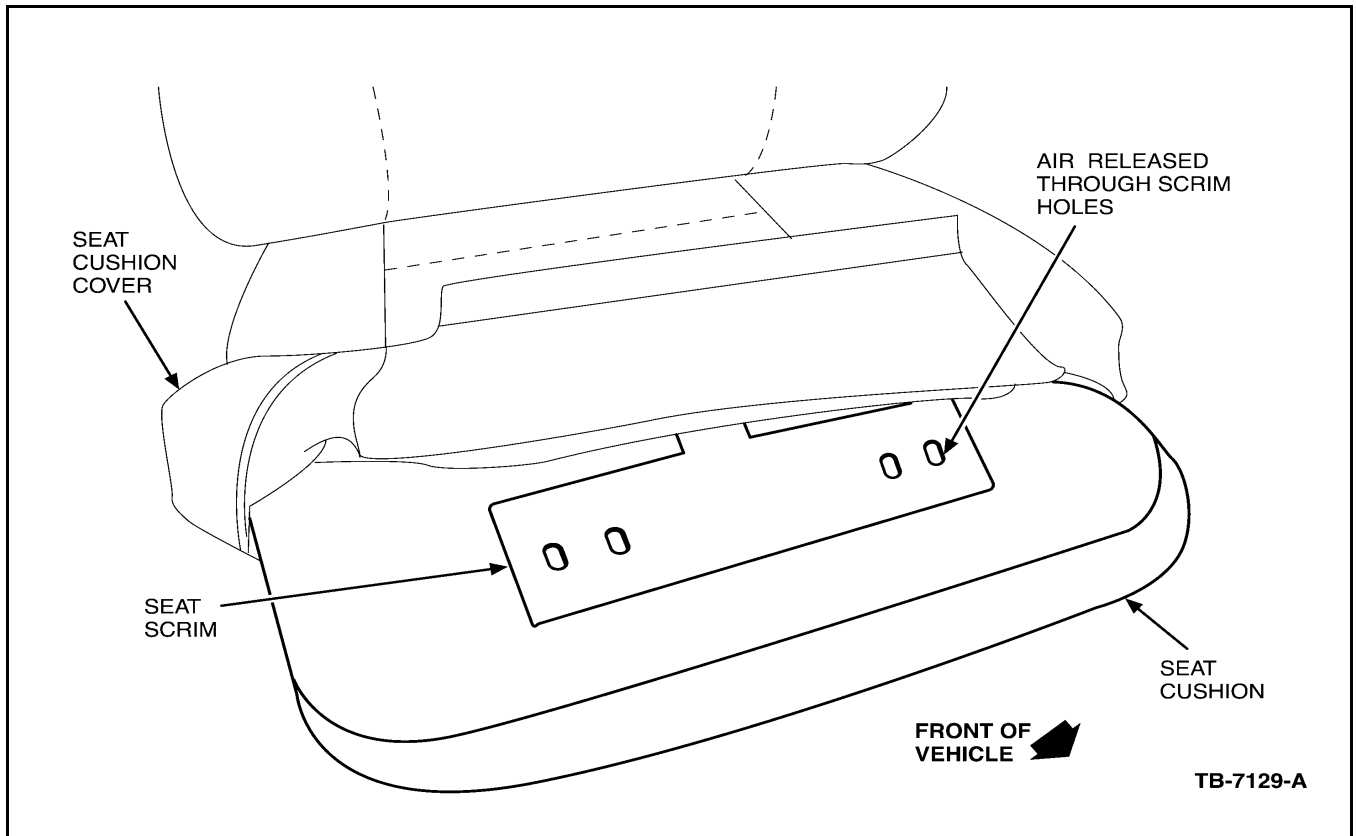

Figure 1 - Article 04-26-19
- Make sure that there are air channels in the seat cushion. The channels are indentations in the foam under the seat scrim (Figure 1). If channels do not exist in the cushion, the cushion is for a non-climate controlled seat and must be replaced with the correct part.
- Make sure that the air channeling holes in the scrim (the thin, white covering that adheres to the seat cushion - see Figure 1) line up with the cushion air channels, and that the scrim is not compressed or crushed to the point of damage.
- Make sure that the channeling holes in the scrim (the thin, white covering that adheres to the seat backrest cushion - see Figure 1) line up with the backrest cushion air channels, and that the scrim is not compressed or crushed to the point of damage.